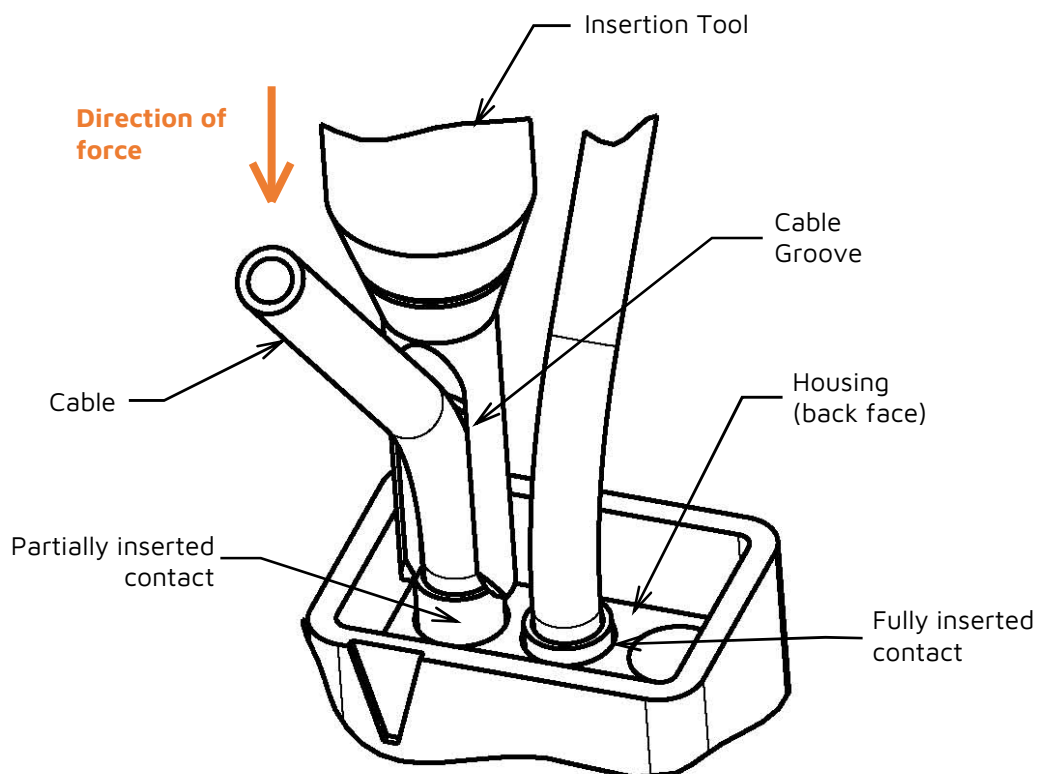

Figure 1 - Insertion Diagram for Crimped Contacts
5. Place the insertion tool over the wire, with the wire sitting in the groove and the tool resting on the back of the crimped contact (see Figure 1).